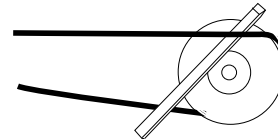

Figure 9
8. Always loosen tension enough to install belts without stretching, see Figure 9.